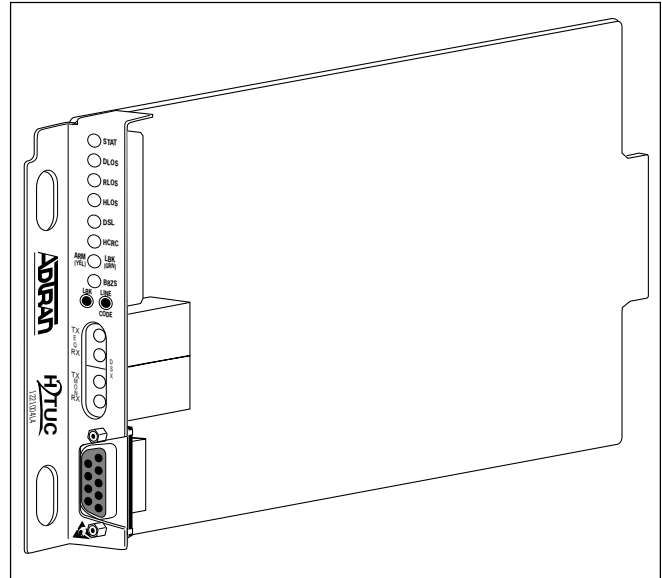

Figure 1. ADTRAN 3192 H2TU-C
The ADTRAN 3192 HDSL2 Transceiver Unit, illustrated in **Figure 1**, for the Central Office (H2TU-C), P/N 1221004L4, is the Central Office (CO) unit used to deploy an HDSL2 T1 circuit using 2-wire metallic facilities. The unit occupies one slot in a CI Wescom® 3192 Office Repeater Bay.